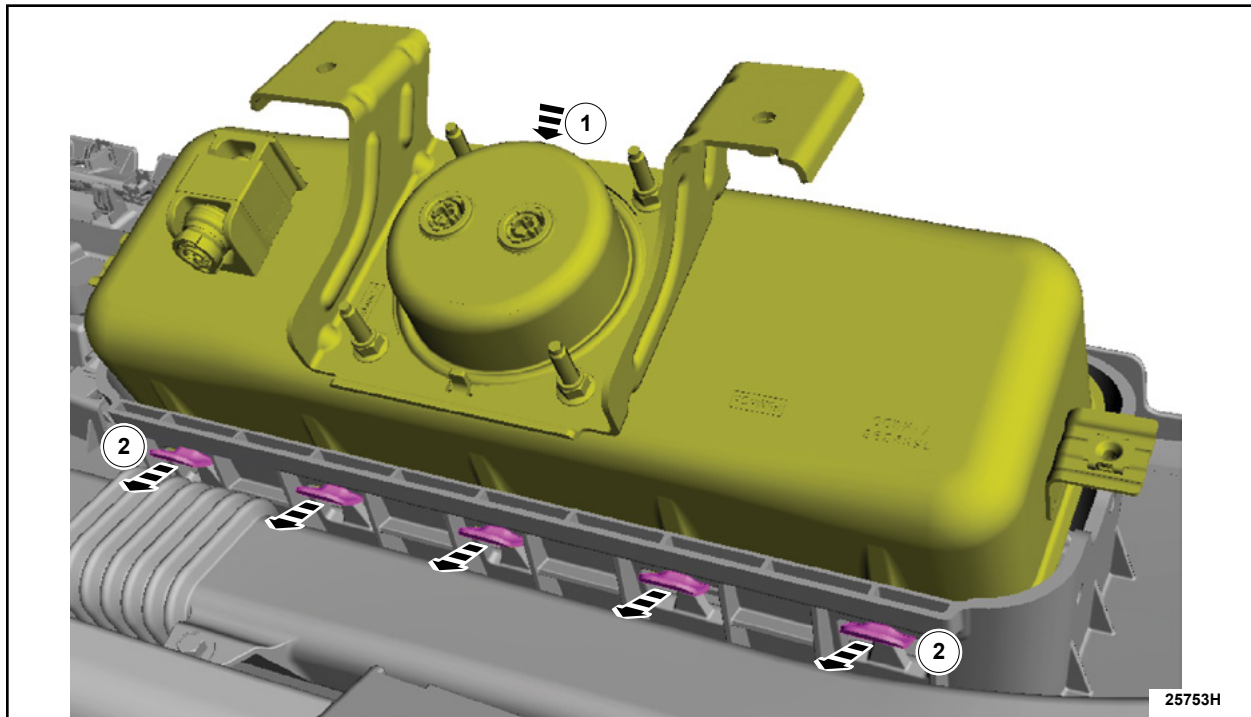

FIGURE 8
10. Position the passenger airbag into the deployment chute of the *new* instrument panel upper section. Then, engage the passenger airbag retainers to the deployment chute. See Figure 8.